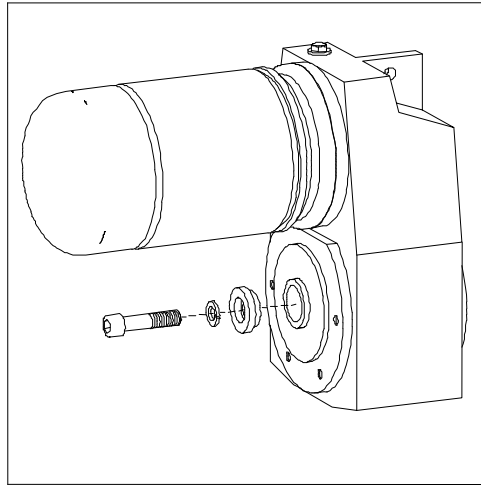

Figure 2.5.4a - Remove the Locking Bolt, Spring Washer and Stepped Spacer
4. Unscrew the locking bolt, spring washer and stepped spacer from the drive shaft, located at the rear of the gearbox (see fig. 2.5.4a).